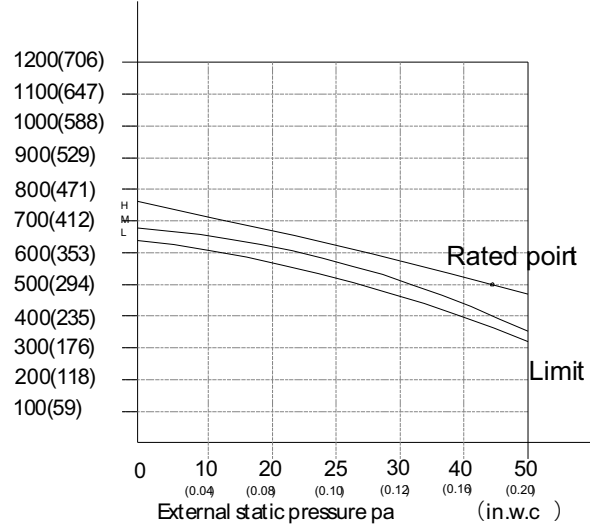

Fig. 15 —Size 9
1. If setting the external static pressure manually, select **SP** and press **CONFIRM**. Select the **SP** number (SP1, SP2, SP3, SP4 – see Table “FAN PERFORMANCES AT VARYING STATIC PRESSURES” on page 14 and curves (Figs. 15 through 21)). Power down the unit to lock in the selection.